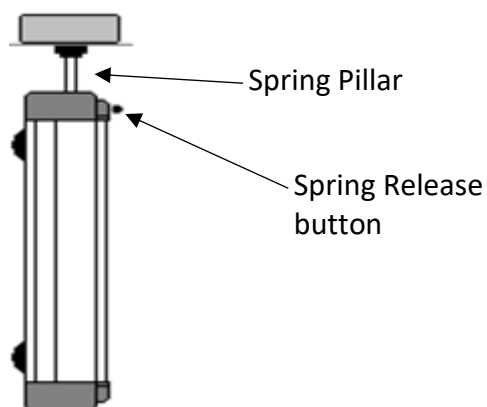

Figure 4 – Cart Standing on End
- C) Take the cart and stand it on end. Make sure that the spring pillar is NOT compressed. See Figure 4. NOTE: At this point the pillar should NOT be compressed.